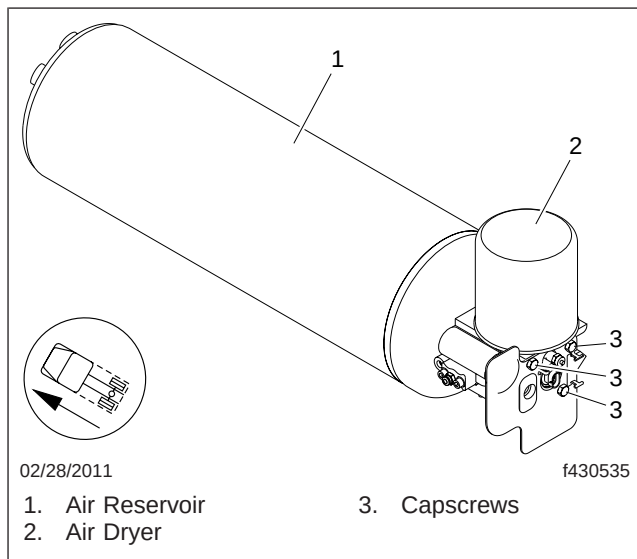

Fig. 1, AD-IS Air Dryer
10. Install the air dryer, making sure the two O-rings are installed between the air dryer and air reservoir. Use the three capscrews to fasten the air dryer to the reservoir. Tighten the capscrews 30 to 35 lbf·ft (41 to 47 N·m). See Fig. 1.